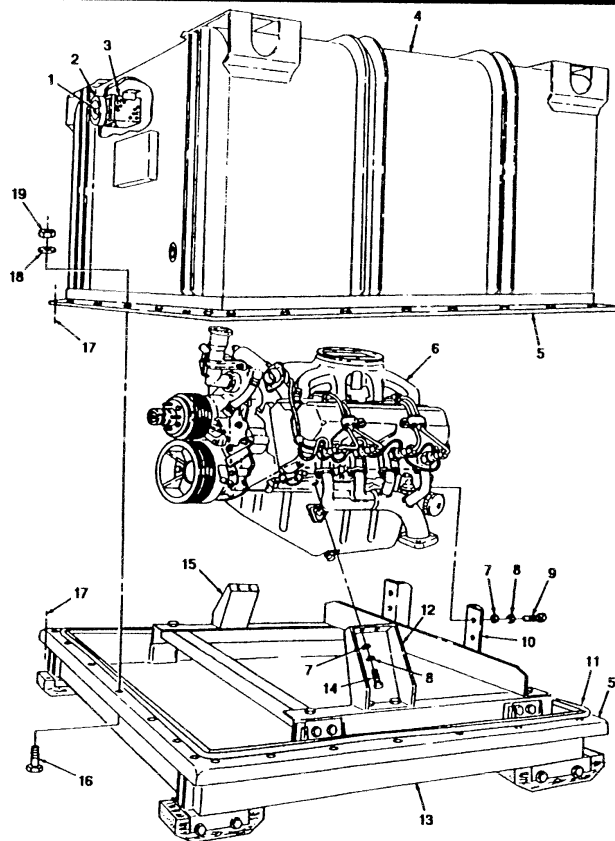

FIGURE 3-6
3. Position engine assembly (6) in lower container (13). (see figure 3-6)
4. Align holes of rear engine mount (10) to engine assembly (6) and secure with four screws (9), lockwashers (8), and washers (7).
5. Align holes of left engine mount (12) to engine assembly (6) and secure with two screws (14), lockwashers (8), and washers (7).
6. Align holes of right engine mount (15) to engine assembly (6) and secure with two screws (14), lockwashers (8), and washers (7).
8. Determine serviceability of gasket (11). If unserviceable, replace with NSN 5330-01-264-6537 gasket(II).
9. Using scribed line marked in paragraph A, step 2 as reference, position upper container (4) to lower container (13). (see figure 3-6)
10. Secure upper container (4) and lower container (13) with existing twenty-six screws (16), washers (18), and nuts (19).